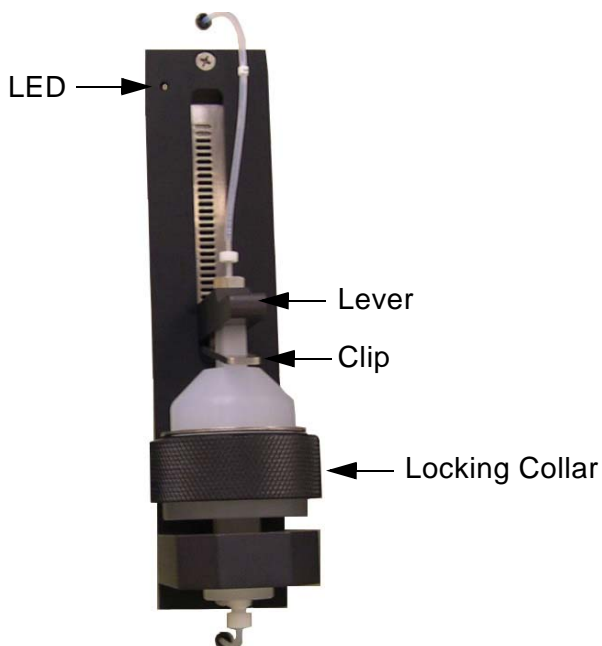

Figure 3-2. Disk Holder Front View
- a. Place disks in each holder to be used by opening the disk holder (by unscrewing the locking collar), squeezing the clip and moving it up toward the lever, and sliding the holder up (see Figure 3-2).
- c. Check that both disks are centered, and then push down on the lever until the assembly “clicks” into place and the holder's LED comes on (see Figure 3-2).